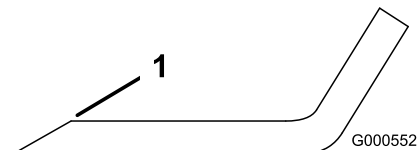

Figure 103
1. Use a file to sharpen the cutting edge at both ends of the blade (**Figure 103**).
Note: If the blade is not balanced, file some metal off the end of the sail area only (Figure 103).